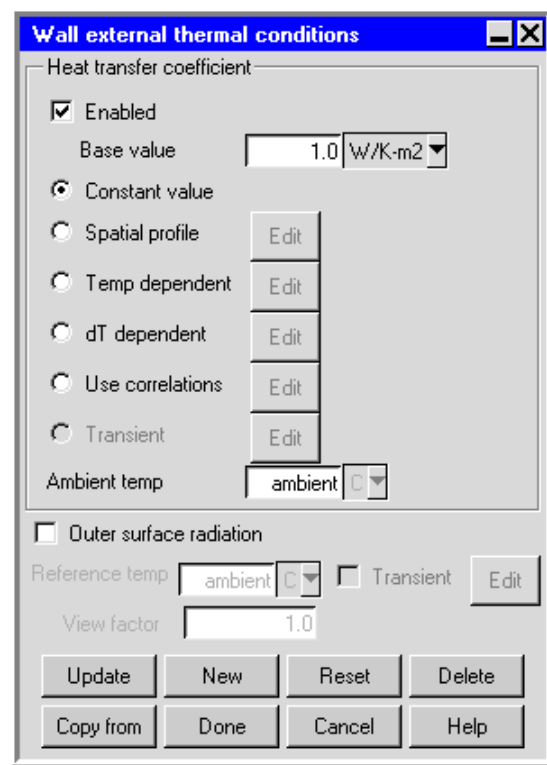

Figure 13.7.3: The Wall external thermal conditions Panel
- Specify the **External conditions** for the wall. The **External conditions** option allows you to account for heat loss or gain at the outer surface of the wall through convective or radiative heat transfer. To specify the external conditions for the wall, select **External conditions** and click **Edit**. **Airpak** will open the **Wall external thermal conditions** panel (Figure 13.7.3).